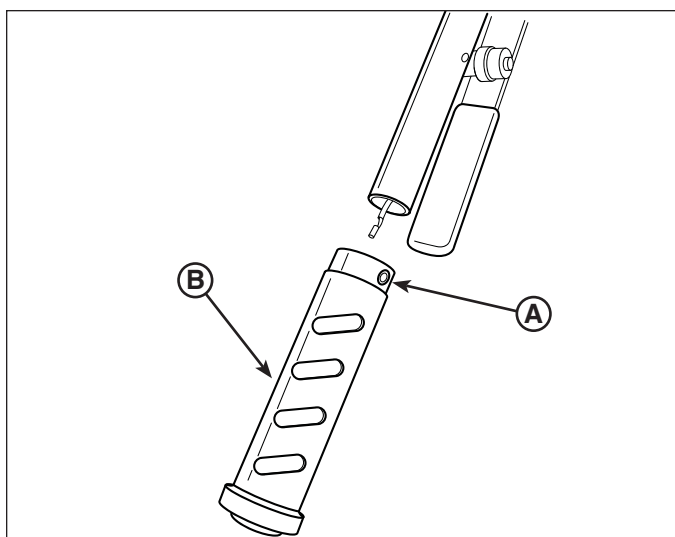
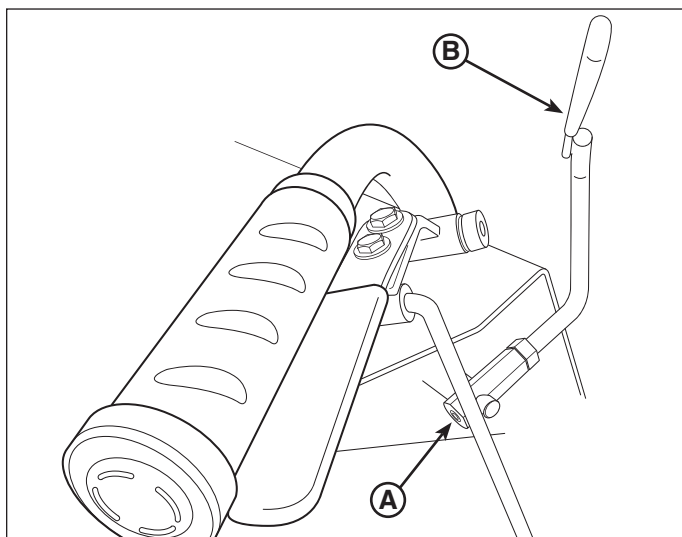

Figure 4. Removing the Magura OPC Grip
Figure 3. Removing the OPC Override Handle
6. Loosen and remove the 3/8" set screw (A, Figure 3) from the adjuster linkage.
7. Remove the OPC override handle (B) from the welded OPC switch tab, be sure to leave the switch tab in place for installation of the mechanical OPC.
8. Loosen and remove the allen head screw (A, Figure 4) and nut that secure the Magura grip (B) to the handle bars.